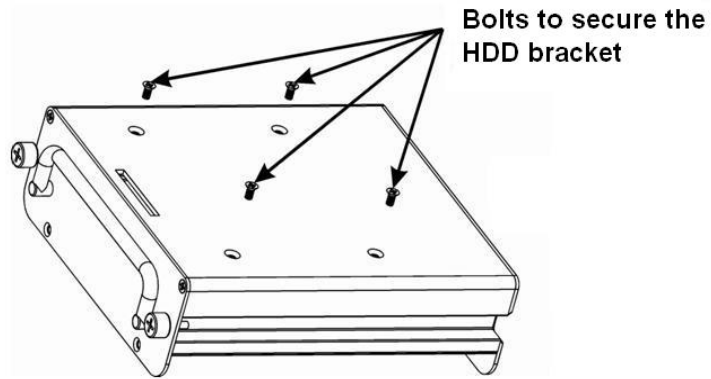

Figure 3-2
2) Now you can see an interface shown as in Figure 3-2 . Remove the four bolts from the HDD bracket and then take out the bracket from the HDD box. Pull out the cable from the cable exit.